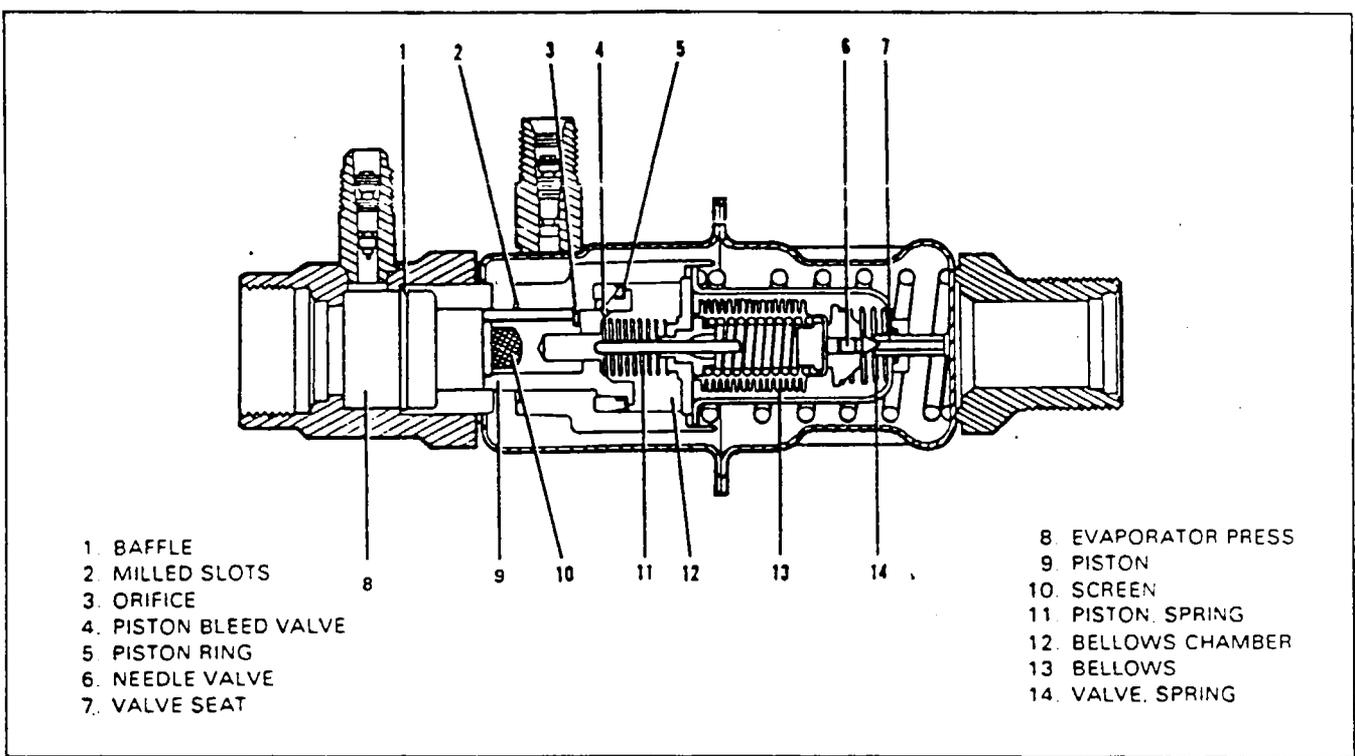

Figure 21-31. Evaporator Control Valve.
**EVAPORATOR CONTROL VALVE. (Refer to Figure 21-31.)**